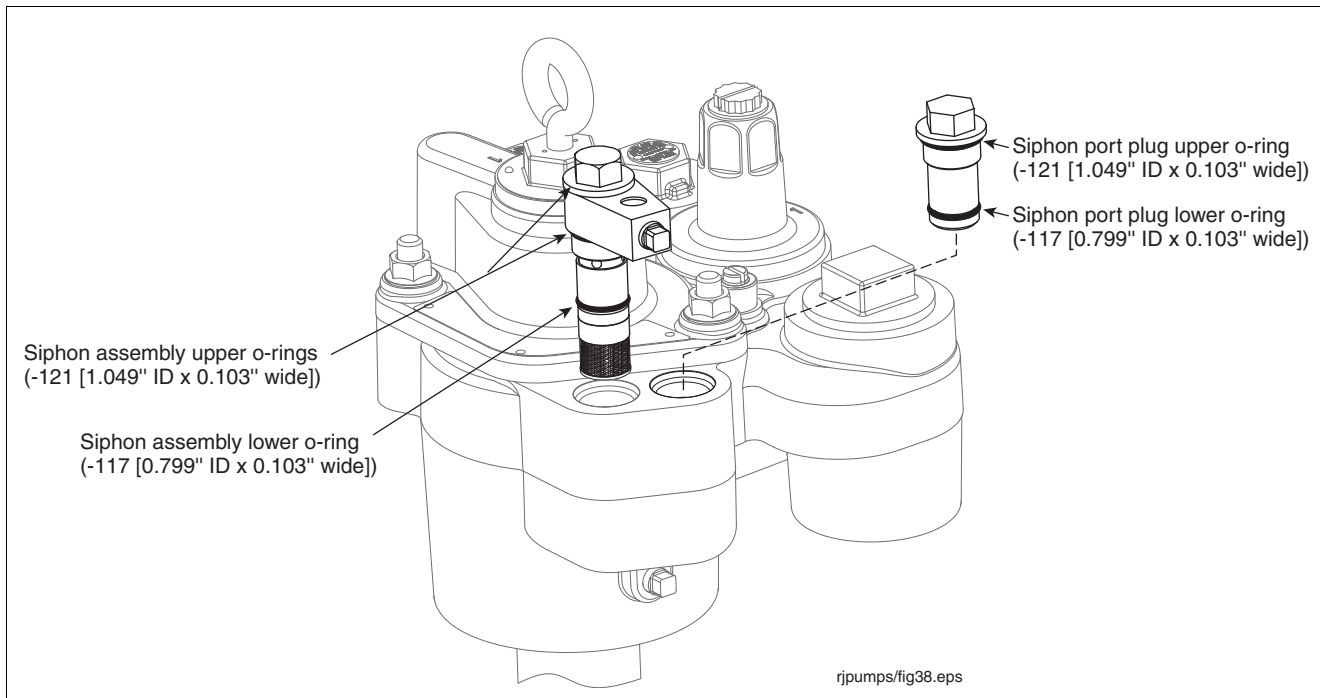

Figure 34. Inserting Siphon Assembly Into Manifold
5. Insert the siphon cartridge into the siphon port (see Figure 34). Swivel the outlet port of the siphon in the desired direction, and then hand tighten the siphon's retaining hex body. Torque the body to 25 - 30 ft-lbs (34 - 41 N•m).